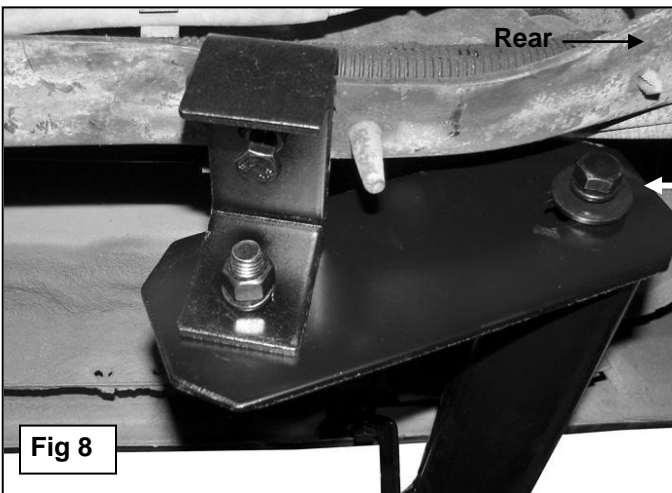

Fig 8
5. Carefully unwrap the Sidebars and select the passenger sidebar. **NOTE:** The shorter end of the tube on the Sidebar will attach to the front mounting bracket. Hold the Sidebar up in position and attach it to the front Mounting Bracket with the included (1) 1/2" x 2" Hex Bolt, (1) 1/2" Lock Washer and (1) 1/2" Flat Washer, **(Figure 3)**. Line up the hole in the rear Mounting Plate with the end of the sidebar and bolt the Sidebar to the Bracket as previously described, **(Figure 8)**. Do not tighten hardware at this time. **NOTE:** It may be necessary to move the Rear Frame Bracket to line up the Mounting Plate with the Sidebar, **(Figure 5)**. Once Brackets are in the correct position, tighten the 10mm Lock Bolt on the bottom of the Rear Frame Bracket to lock the Brackets into place on the frame channel.